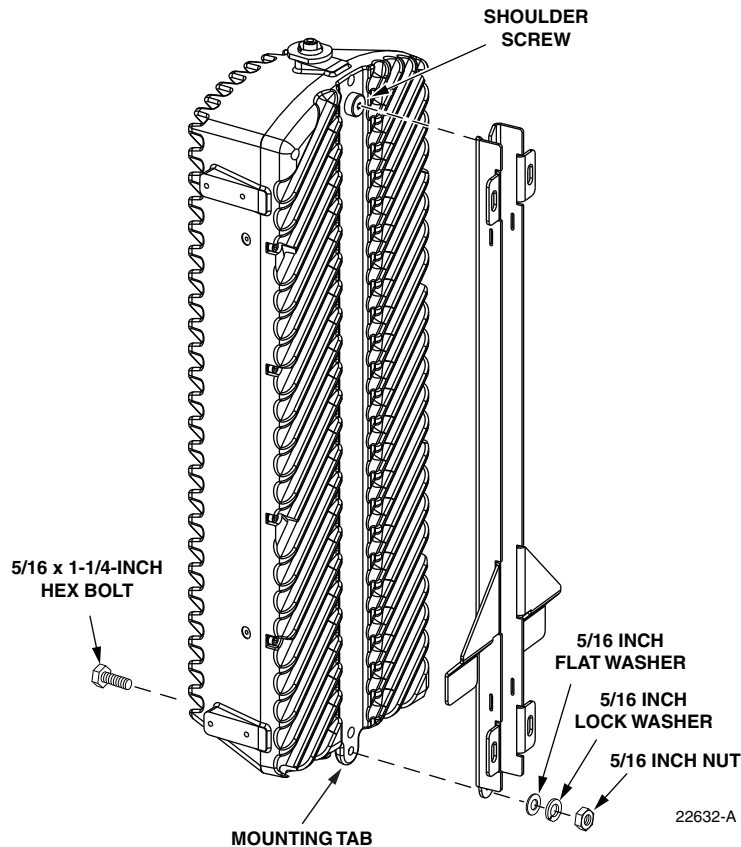

Figure 3-7: Secure Standard Mounting Bracket
- 1 Hang the enclosure from the mounting bracket as shown in Figure 3-7. The shoulder screw in the rear side of the enclosure fits into the notch at the top of the mounting bracket.